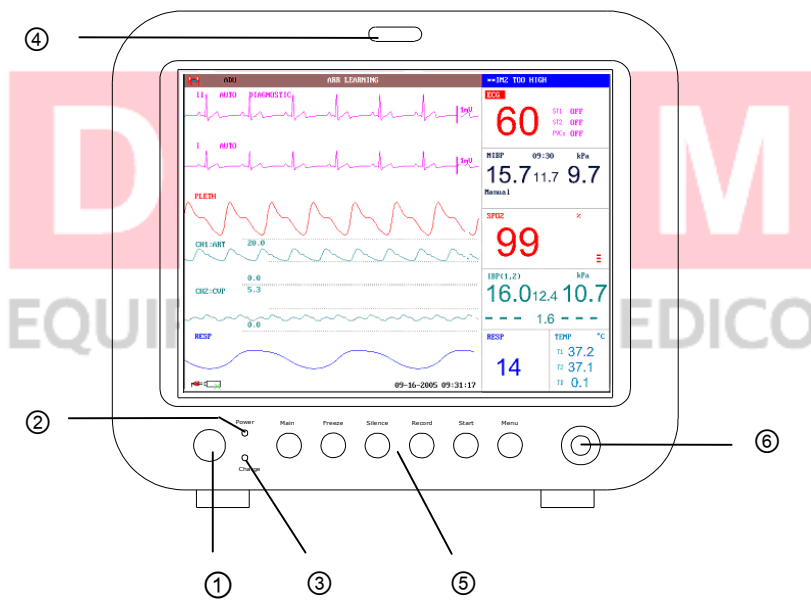

Figure 3-1 M9 Patient Monitor
The **POWER** switch is on the left of the front panel (Figure 3-1, 3-2 ①). The **POWER** indicator lights when the monitor is powered on (Figure 3-1, 3-2 ②). The **CHARGE** indicator shows the charging status (Figure 3-1, 3-2 ③). The **ALARM** indicator flashes when the alarm is triggered (Figure 3-1, 3-2 ④). The sockets of various sensors are on the left panel. Other sockets and the power plug-in are on the rear panel. The recorder is on the right panel.
The monitor is a user-friendly device with operations conducted by a few buttons and a rotary knob on the front panel (Figure 3-1, 3-2 ⑤⑥). Refer to *Section 3.3 Button Functions*.